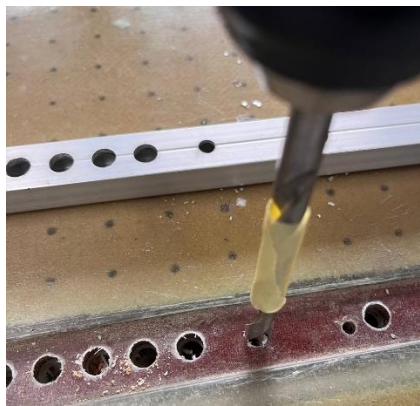

Figure 12: Additional anchor point floor drilling.
- Step 13: Using a drill fitted with the 6 mm or 7 mm high-speed steel (HSS) bit, drill out the additional anchor hole from the top, passing through the floor. Drill carefully to avoid going past the 25 mm limit and damaging components beneath the floor. Refer to Figure 12.